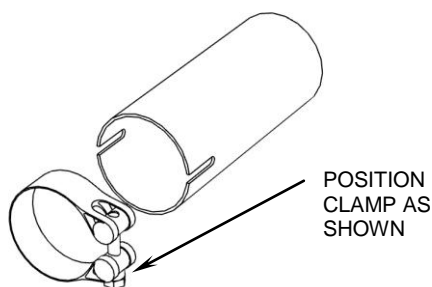
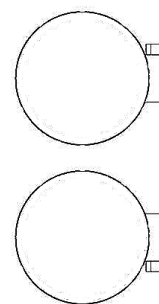

FIGURE 2
FIGURE 3
7. Place the supplied 27-61msc clamp onto the lower muffler slip collar then slide the rear headpipe / muffler assembly onto the front headpipe and into the rear exhaust port. Install rear headpipe to the rear cylinder using the stock acorn nuts from Step 3, but **DO NOT TIGHTEN**. Make sure the gaskets remain in place. See Figure 2 for clamp orientation.
8. Bolt the muffler assembly to the exhaust mount using the (2) supplied 5/16 bolts. **DO NOT TIGHTEN.**
11. Unscrew the hose clamps and feed the tail end of the clamp through the clips on the inside of the heatshields, the larger clamps go to the rear of the heatshields where they will rest on the muffler bodies, smaller ones to the front for the headpipes. The screw end of the hose clamp should be accessible for tightening but not visible when heatshields are mounted to the pipes, see Figure 3.
12. To install the front heatshield, first slide the rear portion of the heatshield over the muffler, continue to slowly slide it forward pushing the front of the shield gently into place between the frame and motor (Hint: Spread the hose clamps apart slightly to make it easier to slide them over the muffler assembly and headpipes). Make sure the muffler clamp doesn't interfere with the heatshields and is aligned as shown in Figure 2. Snug the heatshield clamps but **DO NOT TIGHTEN.**
14. Make sure the front and rear heatshields are parallel with each other. Install one billet tip on each heatshield making sure the angled ends of the tips are parallel with each other. Fasten the tips with the (2) supplied 1/4"-20 x 3/8" bolts making sure they snug up against the heatshield leaving no gap between the tip and heatshield when tightened. **If it is difficult to slide the tips into the heatshields loosen the clamps on the heatshield, failure to do this may cause damage to the chrome tips.**